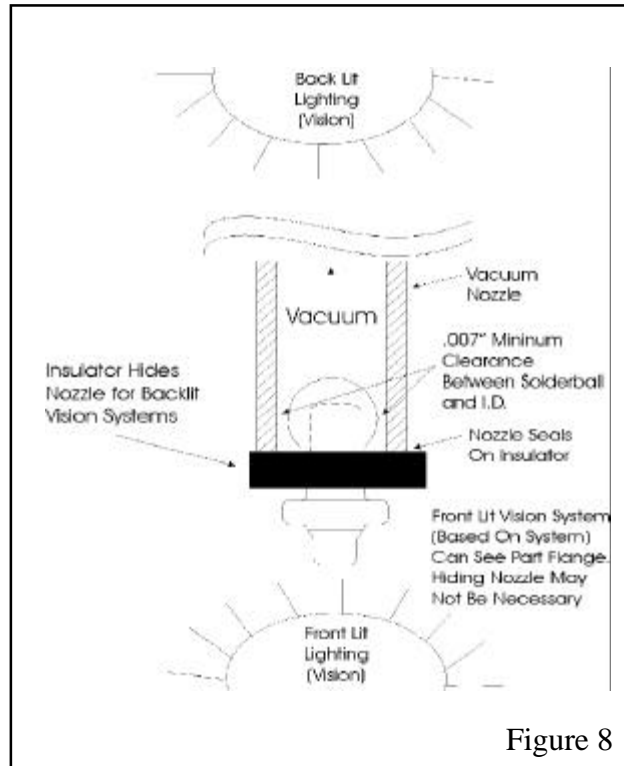

Figure 8
The insulator collar on each pin acts a mating point for the placement machine's vacuum pick-up head to assure consistent alignment during placement of the pins on to the first PCB. Instead of having the vacuum head attempt to pick-up the rounded surface of the solderball and run the risk of canting the alignment, the system is designed for the nozzle to slip completely over the solderball and acquire the uniformly flat surface of the collar. (See Figure 8)
Based on the lighting type utilized (Back-lit or Front-lit) the vision system should be set up to look at different areas of the Solderball Pin. (See Figure 8)
When using a back-lit system the vision system will be looking for the black insulator. It then becomes important that insulator hides the nozzle so that the vision system doesn't mistake the nozzle for the component. Therefore the relationship of the ID of the nozzle to the solderball and the OD of the nozzle to the insulator is important. (See Figure 8) The nozzle selected should have an inside diameter (ID) that is between .177mm to .254mm larger than the solderball on the pin. It is recommended that the nozzle's OD be a maximum of
A front-lit system the vision system should be able to differentiate between the silver color flange on the pin and the black insulator. This will allow the vision system to use the flange of the pin for part alignment. In this case the relationship between the nozzle the solderball and the insulator becomes less important. (See Figure 8)